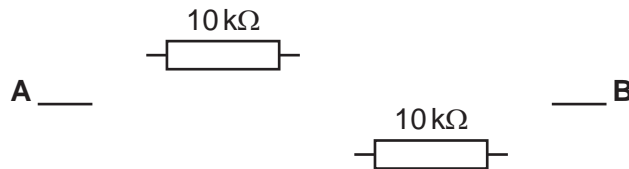

Fig. 2
- 2 Complete Fig. 2 to show how the two components can be connected to give a resistance of $5\text{ k}\Omega$ between points **A** and **B**.